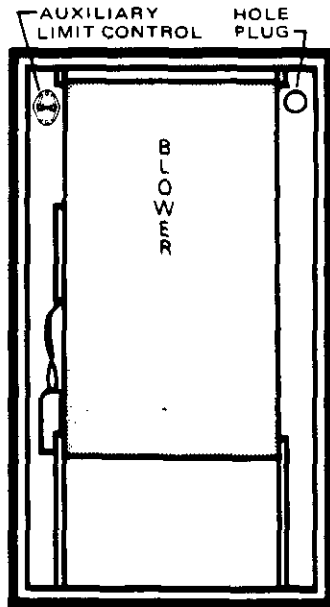

Figure 19 (4-018)
3. Remove wire tie on blower motor wires in blower compartment. Find auxiliary limit control on upper portion of blower panel. Disconnect its blue wires. Route blue wire from burner limit switch over blower housing. Remove auxiliary limit control and hole plug on upper corners of blower panel and exchange locations. See Figure 19.